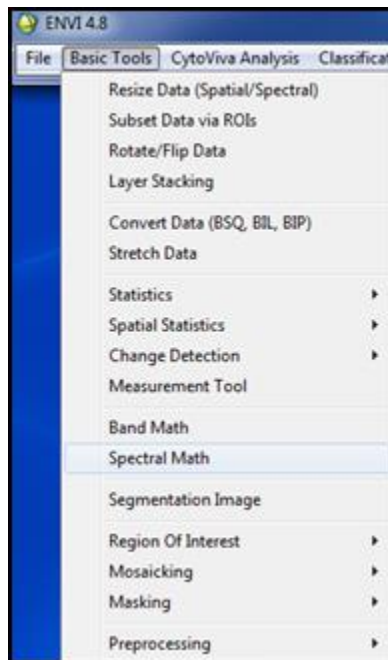

Figure 6.3a. Main menu bar
- Go to the Main Menu bar (Figure 6.3a).